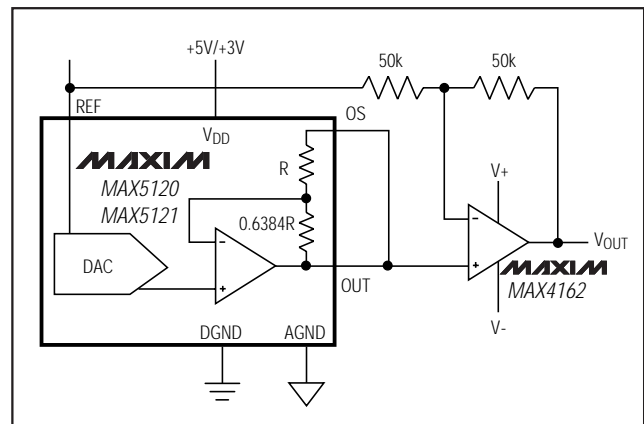

Figure 11. Unity-Gain Bipolar Output Circuit Using Internal (+1.25V/+2.5V) or External Reference. With external reference, pull REFADJ to  $V_{DD}$ .
The MAX5120/MAX5121 can be configured for unity-gain bipolar operation (OS = OUT) using the circuit shown in Figure 11. The output voltage  $V_{OUT}$  is thereby given by the following equation:
where NB is the numeric value of the DAC's binary input code,  $V_{REF}$  is the voltage of the internal (or external) precision reference, and G is the overall gain. The application circuit in Figure 11 uses a low-cost operational amplifier (MAX4162) external to the MAX5120/MAX5121 in a unity-gain configuration. This provides an overall circuit gain of 2V/V. Table 6 lists example codes for bipolar output voltages.
**Table 6. Bipolar Code Table for Figure 11**